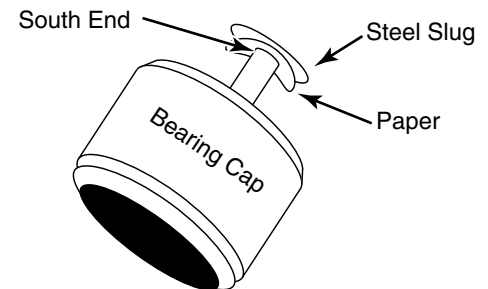

Figure 3
11. Tear off a thin piece of paper, and place it onto the $\frac{5}{8}$ " diameter steel slug. Place the paper and slug onto the south end of the magnets as shown. (See Figure 3.)